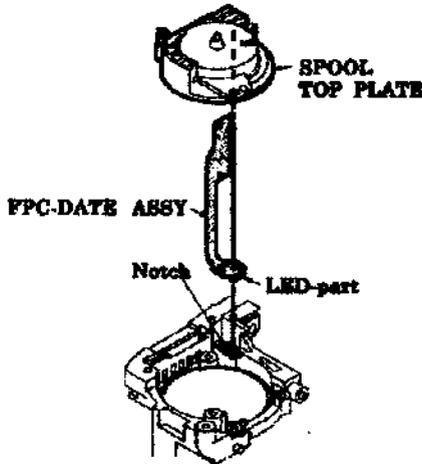

Fig. 4
Insert a screwdriver #1 (0.8mm) into the slot of the Back cover lock plate from the slot between the Grip cover and Back cover then slide the tip of screwdriver in arrow direction as in Fig.4 to open the Back cover.
■ Fig. 4